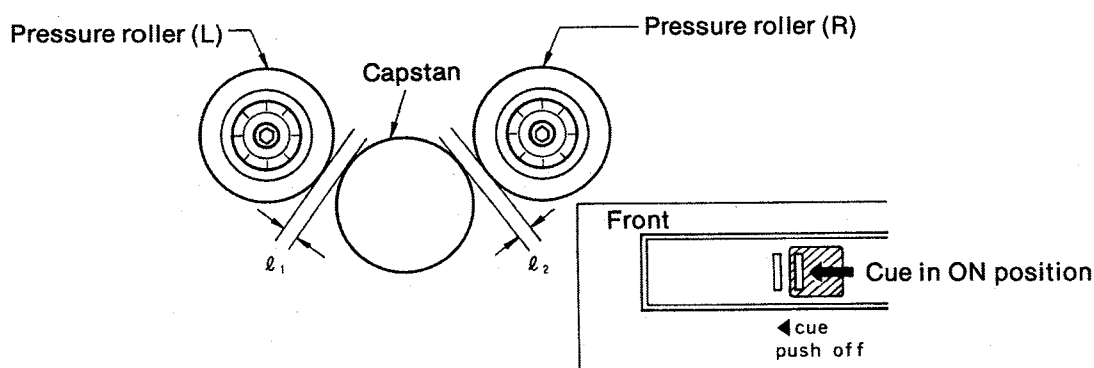

Fig. 4
(5) Digital electronic counter
- a. Number of figure: 4 (decimal system)
(6) Wow meter
Checking method (See fig. 4)